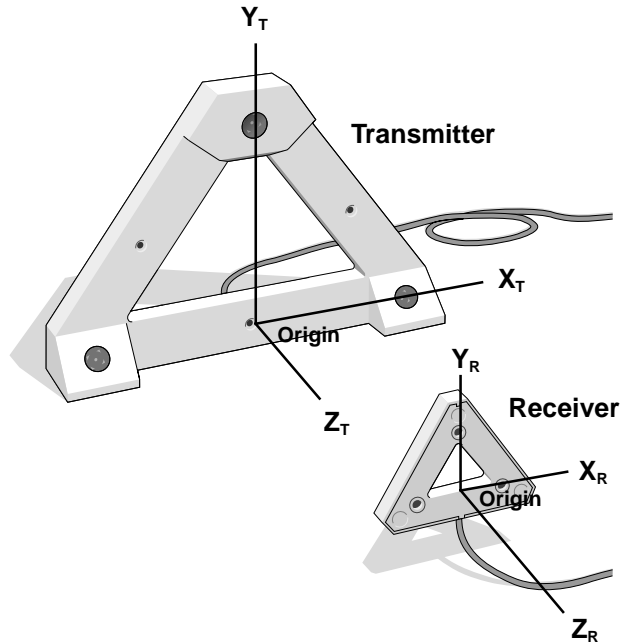

Figure 5-4. Transmitter and Receiver Origin Points and Reference Axes
The positional and orientation data generated by the control unit are based on the 3D origin points and reference axes. In Figure 5-4, the transmitter's origin point and reference axes are defined by the following:
- X_T is an imaginary reference axis that passes through the center of the transmitter's lower left speaker and through the center of the transmitter's lower right speaker. (Only the positive direction of this is shown in Figure 5-4.)
Also in Figure 5-4, the receiver's origin point and reference axes are defined by the following:
- X_R is an imaginary reference axis passing through the center of the receiver's lower left microphone and through the center of the receiver's lower right microphone. (Only the positive direction of this axis is shown in Figure 5-4.)
X Data. This is the distance the receiver's origin point is to the left or right (along the X_T axis) of the transmitter's origin point (see Figure 5-4).
Y Data. This is the distance the receiver's origin point is above or below (along the Y_T axis) the transmitter's origin point—minus a 12-inch offset (see Figure 5-4). When the receiver is sitting on the desktop level with the base of the transmitter, the Y data will be approximately a negative 12 inches.
Z Data. This is the distance the receiver's origin point is away (along the Z_T axis) from the transmitter's origin point minus an 18-inch offset (see Figure 5-4). When the receiver is 6 inches away from the transmitter the Z axis, the Z data will be approximately a negative 12 inches.
- The receiver's reference axis Z_R is parallel to the transmitter's reference axis Z_T (see Figure 5-4).